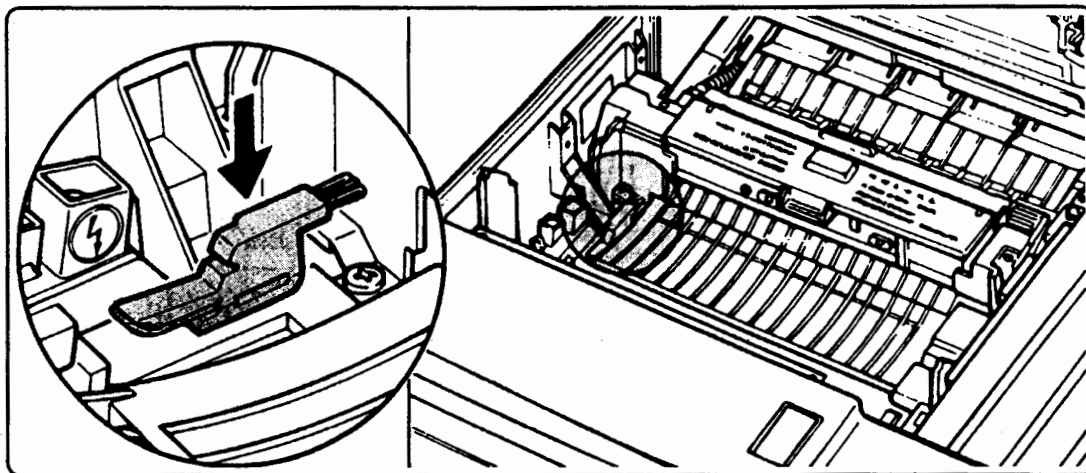

Figure 4-8. Cleaning Brush Location
4. Lift out the cleaning brush, as shown in Figure 4-8.